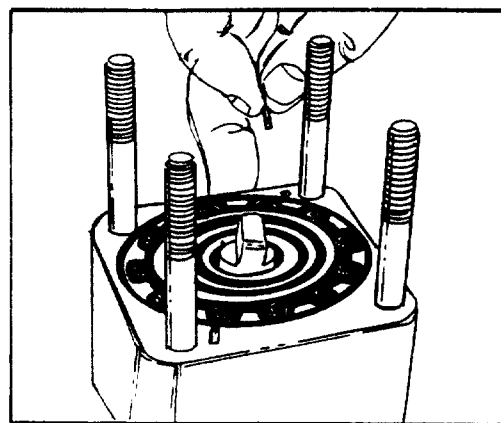

FIGURE 18.
21. Remove the two isolation manifold-metering ring alignment pins (11). See figure 18.